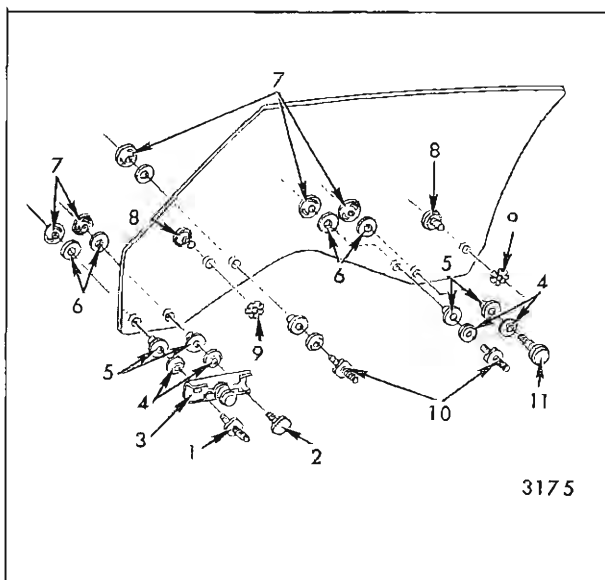
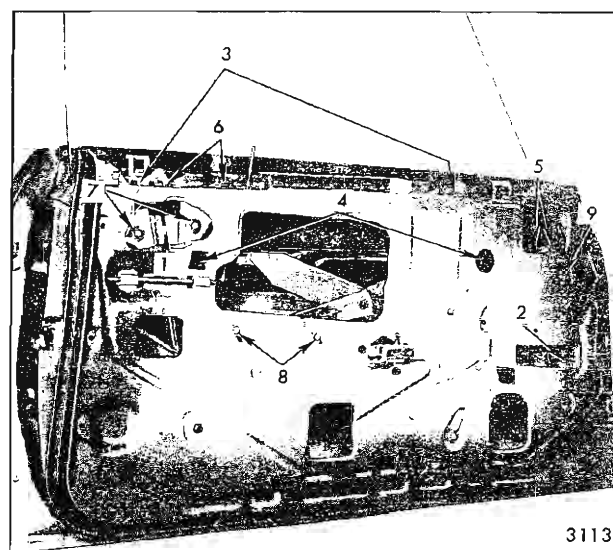
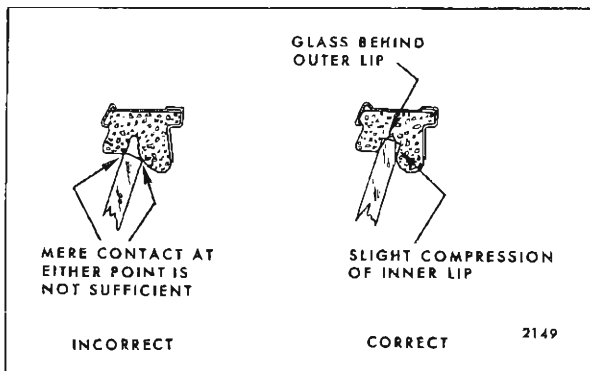

Fig. 6-82—Front Door Window Assembly "A-37, 67 and 87" Styles and "G-57" Styles
Fig. 6-83—Front Door Window Removal and Adjustment - "A-37, 67 and 87" Styles and "G-57" Styles
Fig. 6-84—Window to Side Roof Rail Weatherstrip Alignment
2. Loosen window rear up travel stop bolt ("1", Figure 6-83) and remove stop from rear guide.
3. Using a 1/4" hex-head wrench, remove front up-stop from window front roller cam ("2", Figure 6-83).
4. Remove window stabilizer strip assembly bolts ("3", Figure 6-83) and remove stabilizer strips.
5. Remove window lower sash channel cam to glass attaching stud nuts ("4", Figure 6-83). Tilt top edge of glass inboard and disengage window (with studs intact) from lower sash channel cam.
1. In and out adjustment of the glass is controlled by the in and out adjustment available at the top of the front and rear guides ("5" and "6", Figure 6-83) and the in and out position of the glass stabilizer strip assemblies ("3").
2. Fore and aft adjustment of the window assembly is controlled by the position of the rear guide. The upper guide bracket to guide attaching locations ("7", Figure 6-83) are slotted to permit fore and aft adjustment of the guide. Because of the free floating roller in the window front sash channel cam (Figure 6-82), the front guide does not have to be adjusted during fore or aft window alignment.
3. Ease of window operation and window stability depend to a great extent on the adjustment of the window stabilizer strip assemblies at the beltline ("3", Figure 6-83). The stabilizing strips ("3") should contact the glass throughout the full cycle of the window. Due to slight variations in glass contour, however, in some
4. A window that is rotated (cocked) in the window opening may be the result of an improperly adjusted inner panel cam ("8", Figure 6-83) or poorly adjusted up-travel stops ("1" or "9", Figure 6-83).
Correct a poorly adjusted inner panel cam by loosening cam attaching bolts ("8", Figure 6-83) and adjusting front end of cam up or down as required. Adjustment of cam repositions front edge of glass up or down in relation to rear edge of glass.
5. The up-travel of the window is determined by the adjustment of the front and rear window up-travel stops ("1" and "9", Figure 6-83). To adjust window up-travel, loosen front and rear up-stops and operate window to desired position to establish proper glass to side roof rail weatherstrip contact (Figure 6-84).